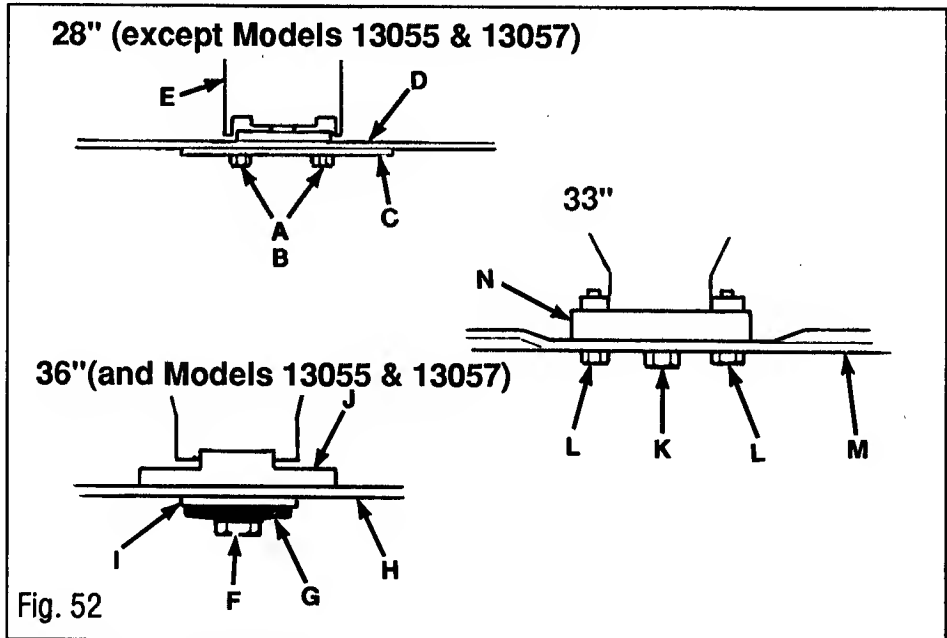

Fig. 52
3. Remove two screws (A, Fig. 52) and lock washers (B) securing plate (C), and blade (D) to the spindle assembly (E).
2. Remove blade bolt (F, Fig. 52), spring washer (G), and spindle washer (I) securing blade (H) to bottom of blade adapter (J).
3. Remove blade bolt (F, Fig. 52), spring washer (G), and spindle washer (I) securing blade (H) to bottom of blade adapter (J).